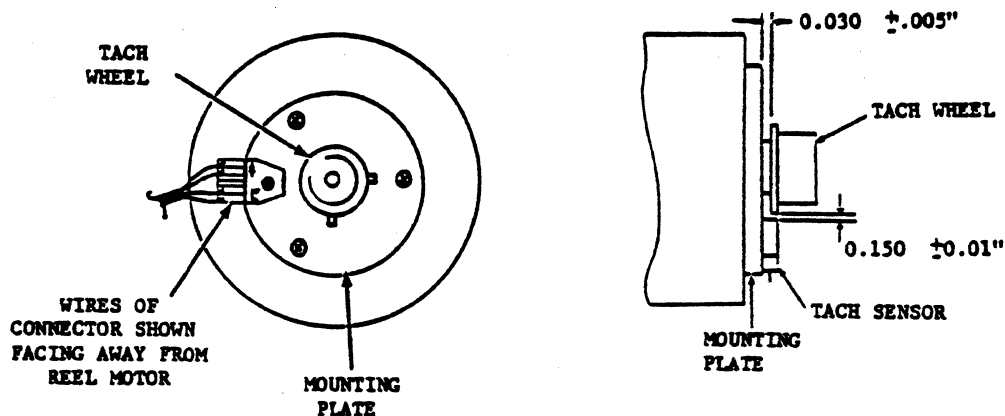

Figure 6-17. Tach/Sensor Assembly/Adjustments
2. Assemble sensor and tach wheel (from steps 6 and 7 of Removal) onto rear of motor mounting plate and shaft as shown in figure 6-17 and adjust per tolerance requirements listed in the Supply Motor Tach and Sensor Procedures.
5. Attach W3P5 connector to tach sensor pins as shown in figure 6-17.
### Replacement (Refer to Figure 6-17)